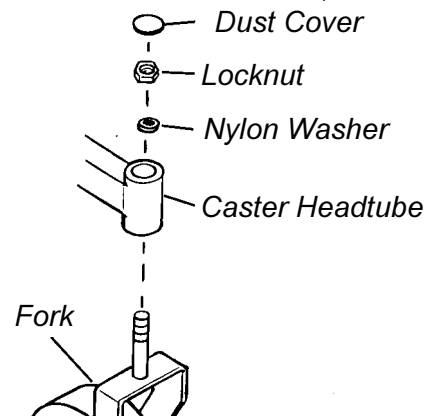

FIGURE 4 - REPLACING FORKS
**REPLACING FORKS (FIGURE 4)**